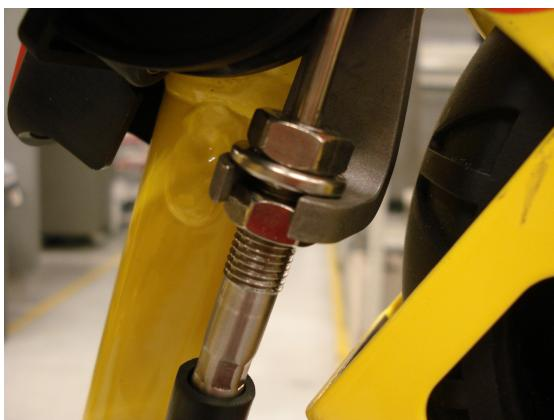

Figure 11 – Barrel nut at the foot end
- a. Using a 9/16" combination wrench, adjust the barrel nuts toward the foot end of the cot (Figure 11).